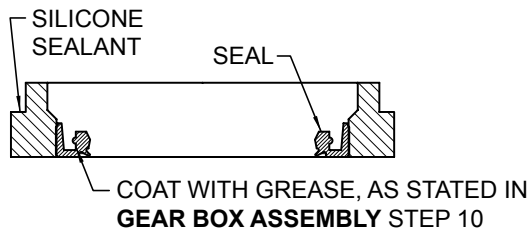

FIGURE 17
10. Install grease seals in bearing retainers. Coat seal lips with grease conforming to ISO 220, NLGI grade 2 or NSF USDA-H1. Coat retainer flanges with silicone sealant. Install retainers. See Figure 17.